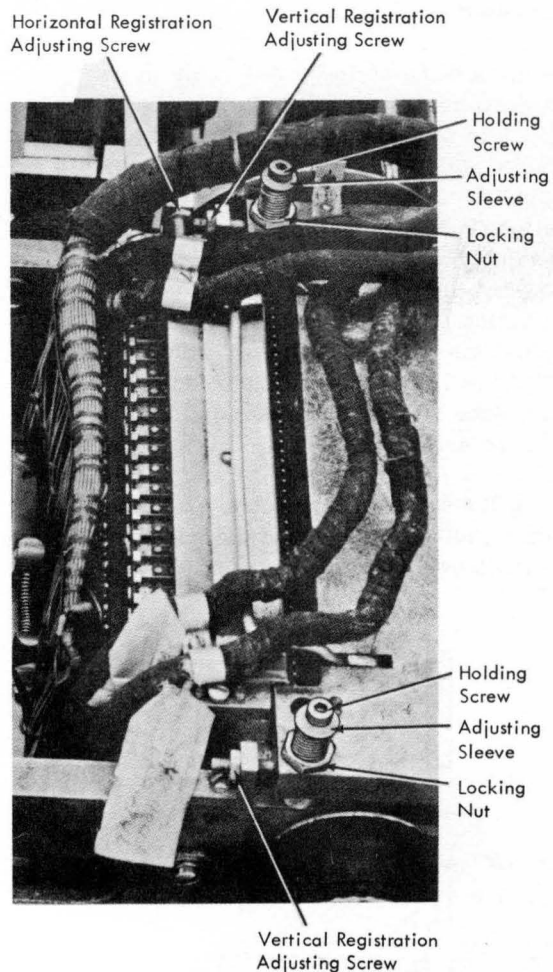

Figure 4-36. Punch Unit Registration Adjustments
1. Removing the four holding screws on top of the punch unit (Figure 4-36).
- a. Loosen the four holding screws on top of the punch unit (Figure 4-36).
- a. Loosen the four punch unit holding screws (Figure 4-36).